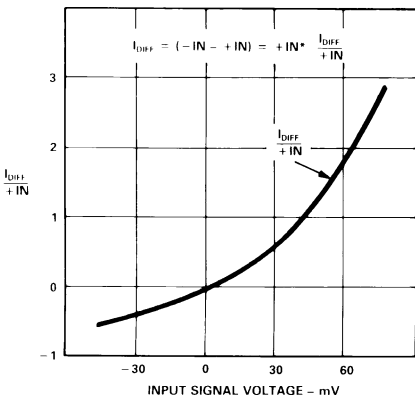

Figure 2. Differential Input Current vs. Input Signal Voltage Normalized to +IN
- Bias currents are not symmetrical with input signal level and flow out of the input pins. The input bias current of the inverting input increases with input signal voltage, see Figure 2.